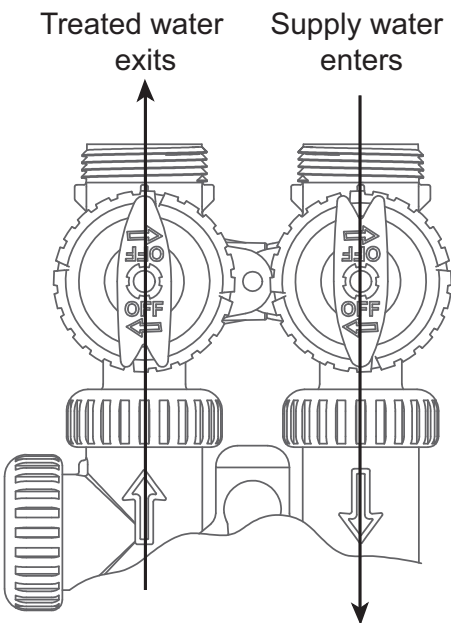

Figure 1 Normal Operation Position
- a. Normal Operation Position:** The inlet and outlet handles point in the direction of flow indicated by the engraved arrows on the control valve. Water flows through the control valve for normal operation of a water softener or filter. During the regeneration cycle this position provides regeneration water to the unit, while also providing untreated water to the distribution system. Refer to Figure 1.